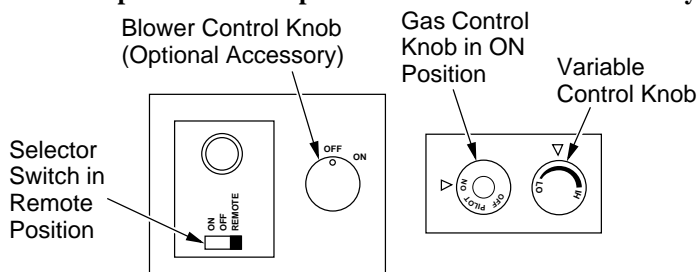

Figure 53 - Setting the Selector Switch, Gas Control Knob, and Variable Control Knob for Remote Operation
- After lighting, let pilot flame burn for about one minute. Turn control knob to ON position. Adjust flame adjustment knob anywhere between HI and LO. Slide the selector switch to the REMOTE position (see Figure 53). **Note:** The burner may light if hand-held remote was on when selector switch was last turned off. You can now turn the burner on and off with the hand-held remote control unit.